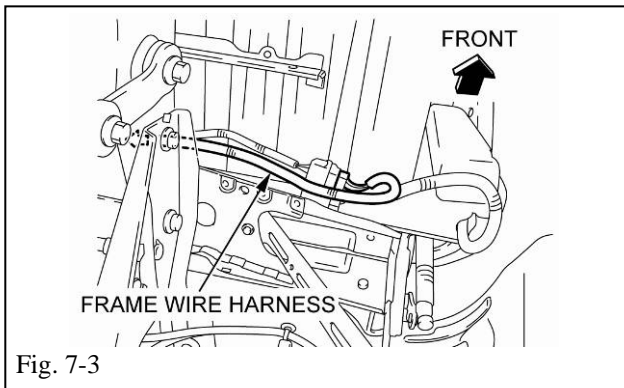

Fig. 7-3
- (c) Route the frame wire harness as shown (Fig. 7-3).